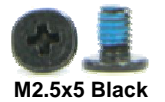

Fig. 5 Ejecting ODD tray
1. Use pin to eject ODD tray as shown in Fig. 5